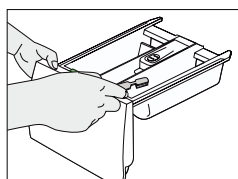
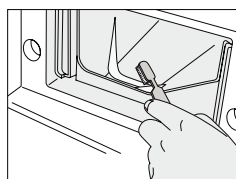

Fig. 17
Fig. 18
- Clean the drawer recess with a small brush. (Fig.17, Fig.18)